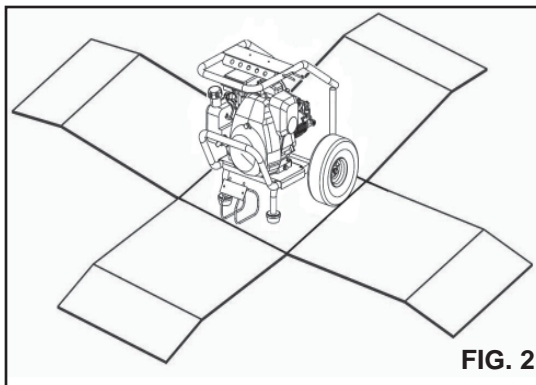

FIG. 2
2. Cut four corners of the carton from top and bottom and lay the panels flat. (Fig. 2)